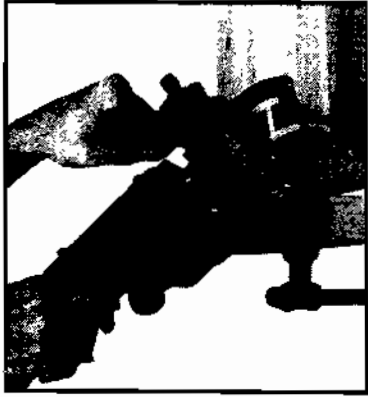

Fig. 28
7. Hold machine firmly as shown in Fig. 28, and squeeze trigger switch to start machine.